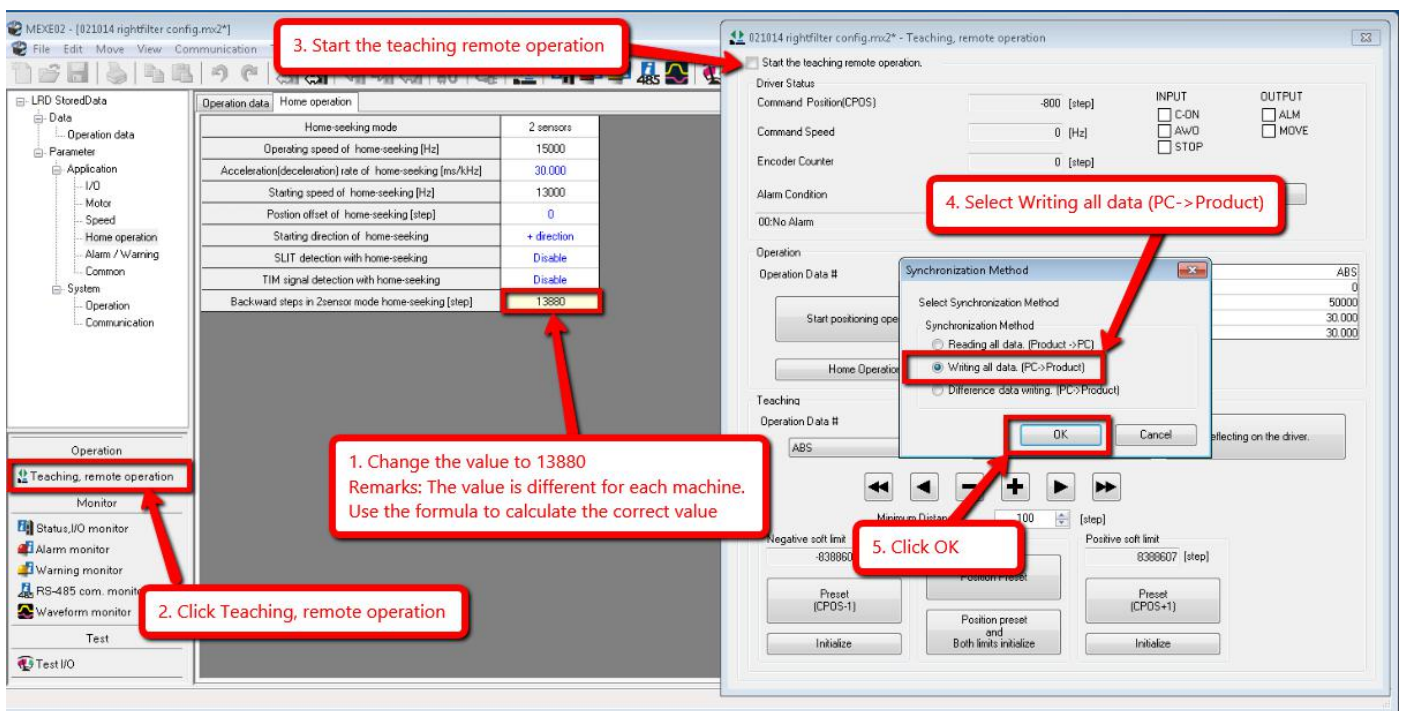

Figure 34 New value for homing
26. Change the new value in the Backward steps in 2sensor mode home-seeking [step] as shown in Figure 34.